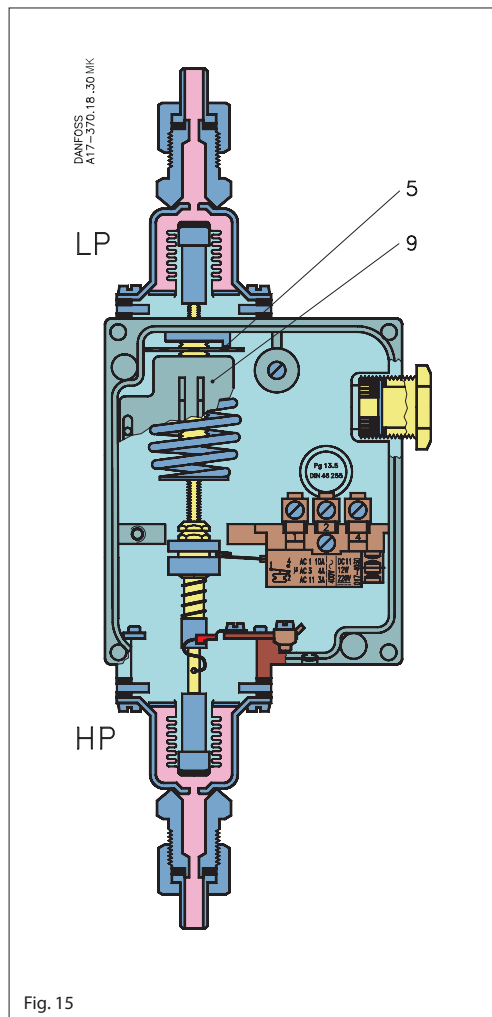

Fig. 15
The differential disc (5) fig. 15 page 13, must be set at 1 bar (10 m wg) minus the fixed differential of 0.1 bar, i.e. 0.9 bar. The neutral zone disc is factory-set (marked in red).